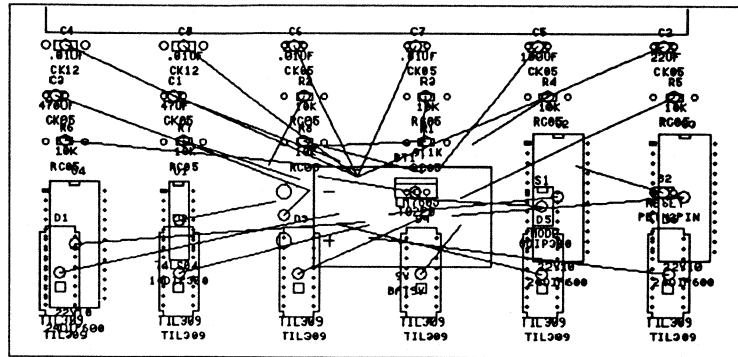

Figure 6-5. Force vectors for the TUTOR layout.
2. Enable **Show Force Vectors**, then select **OK**. All modules display their force vectors (figure 6-5).